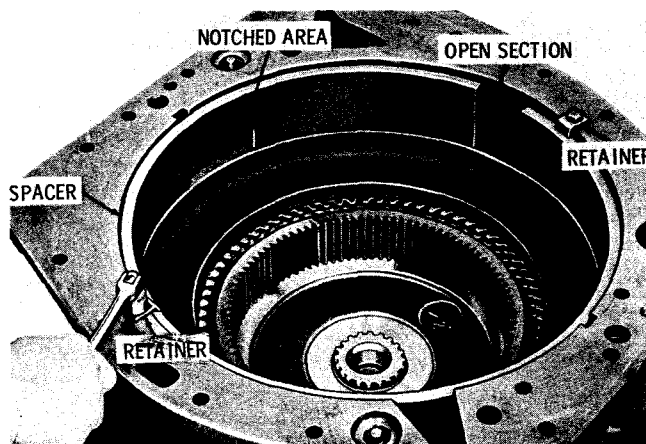

Fig. 7-39. Installing high-splitter clutch back plate spacer retainers S1686
(7) Install the back plate spacer, notched area facing down and open section toward the bottom of the transmission housing. Secure the spacer with two retainers and two 3/8-16 x 3/4-inch bolts (fig. 7-39). Tighten the bolts to 26 to 32 pound feet torque.